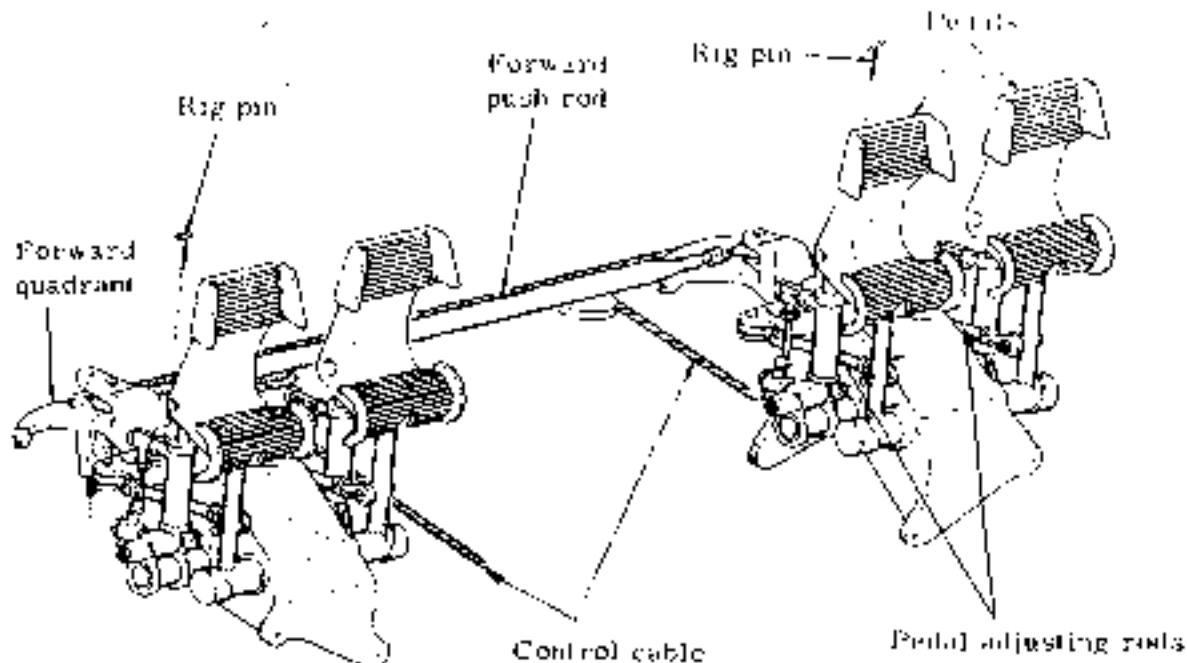

Fig. 5-22 Insert rig pin in forward quadrant
- (1) Insert rig pin into forward quadrant. (See Fig. 5-22)
- (1) Insert rig pins into forward quadrants for both pilot and co-pilot.
- (2) Adjust the pedal adjusting rods (Fig 5-22) to the most comfortable position for the pilot (co-pilot). The adjusting length of the rod is between 5.82 to 6.61 in. (148 to 168 mm) which allows the pedal to be adjusted a total of 2.0 in. (50.8 mm), full forward to full aft.
- (3) Adjust length of rod of master cylinder so that pedal may be placed at correct angle.
- (4) Rigging of pedal for co-pilot is accomplished in the same way.
- (5) Remove rigging pin.